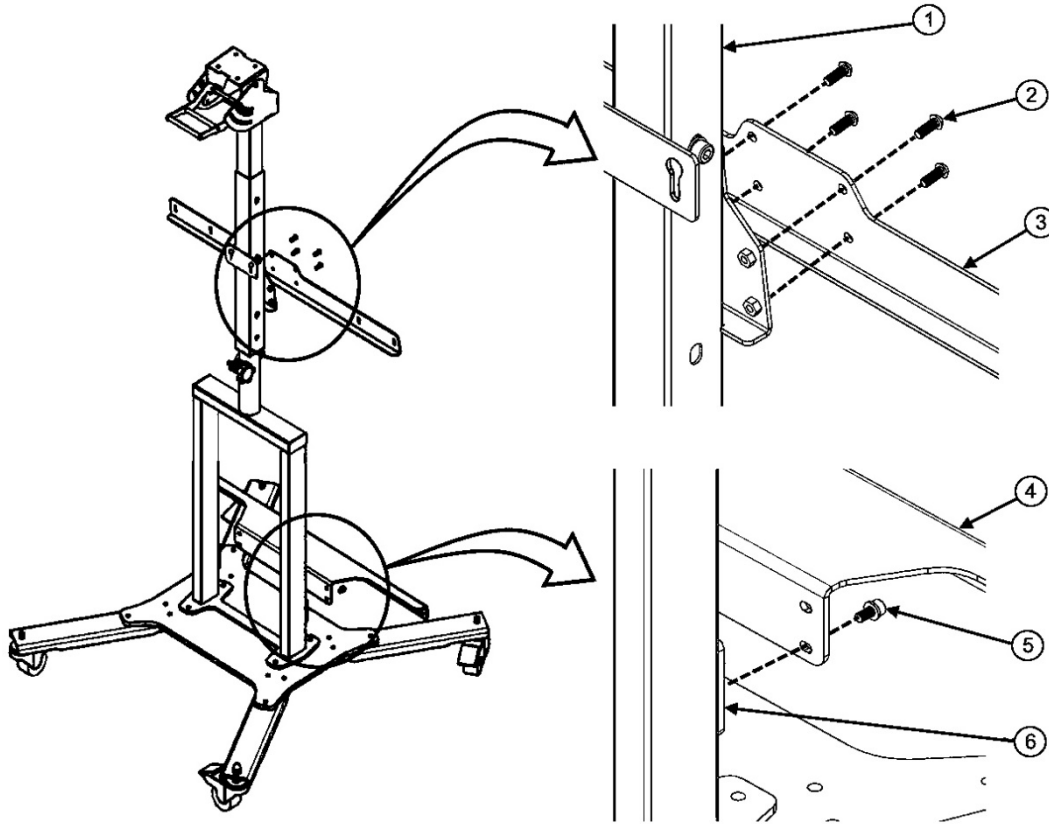
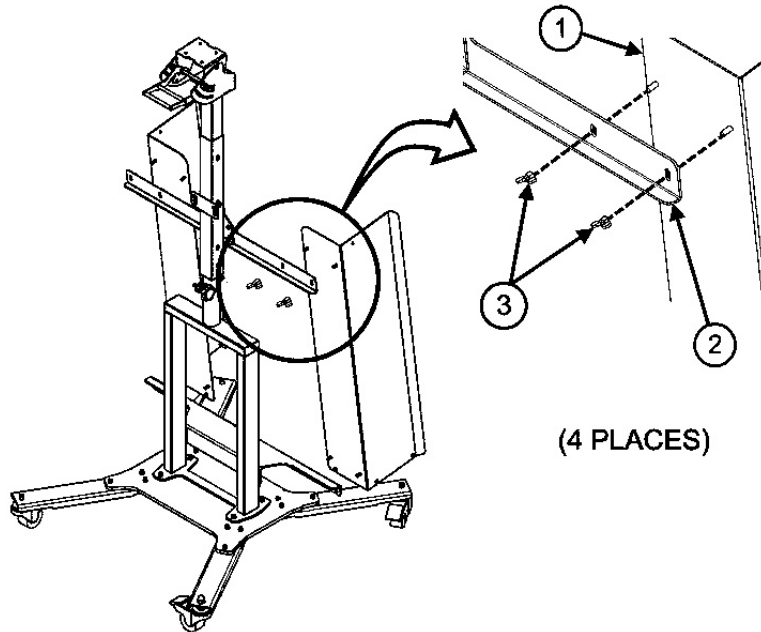

Figure 9 Cross Bar Installation
Figure 10 Paper Tray Installation
- Loosen the pre-installed butterfly nuts (right side shown) (Figure 9, 3) and loosely install the left and the right side of the paper tray (1) to the floor stand (2).
- Install the base (Figure 10, 2) in the correct location in the paper tray (1) and tighten the butterfly nuts (Figure 9, 3).